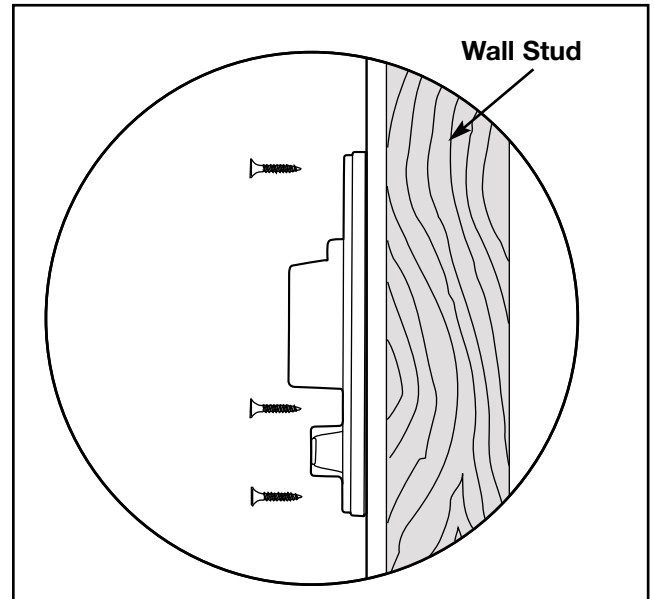

Fig. 2
2. Mount the wall station to a wall stud (Fig. 2). Secure the wall stud with the three screws provided.